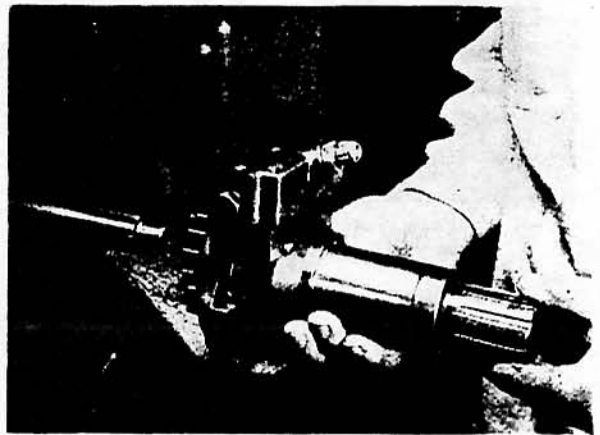

FIGURE 21. REMOVING MAIN DRIVE SHAFT RETAINER
9. Remove the three remaining setscrews securing the main drive shaft retainer assembly and remove assembly from the front of the transmission, Figure 21. Care should be taken to avoid damaging the cast iron sealing ring.